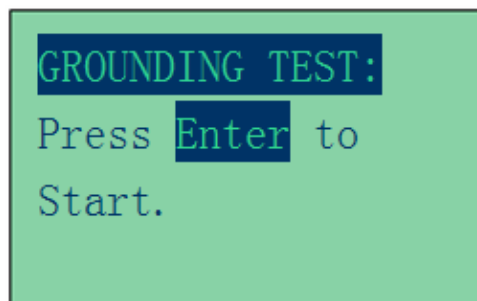

Figure 25
5. Press  key will proceed to the display as follows: (Fig. 25)